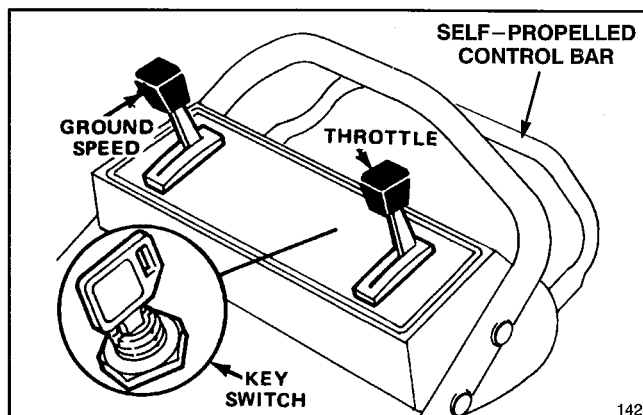
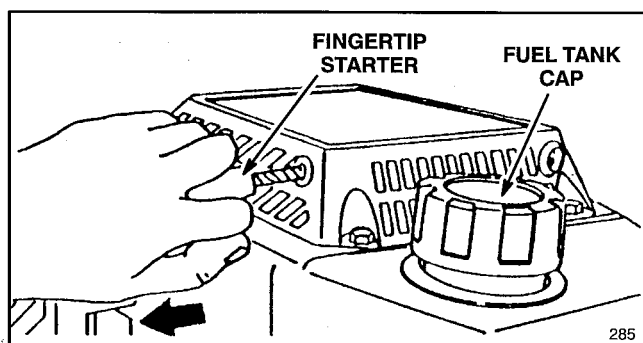

Figure 5
Figure 6
1. Clean around fuel tank cap (Fig. 6) and remove cap from tank. Do not fill tank full. Using unleaded gasoline, fill fuel tank to within 1/4" to 1/2" (6 to 13 mm) from top of tank, not into the filler neck. This space is for expansion of fuel.
1. **CONTROLS**—Key switch (electric start model only), ground speed control, throttle, and blade/self-propelled control bar are on upper handle (Fig. 5). Fingertip starter is on top of engine (Fig. 6).
4a. **KEY-ELECTRIC STARTING** (electric start model only)—Move throttle to CHOKE. Turn key to START and release when engine begins running. When engine starts, remove throttle from CHOKE and regulate engine speed between  (FAST) and  (SLOW). If the battery's charge is too weak to start the engine, the engine can be started with the fingertip starter (Fig. 6).
5. **GROUND SPEED** (Fig. 5)—Ground speed varies depending on distance between control bar and handle. The mower has three ground speeds: number "1" is slow, "2" is medium, and "3" is a fast walking pace. Move ground speed control to desired setting. Ground speed can be varied by increasing or decreasing distance between control bar and handle. Lower control bar to slow mower when making a turn or if mower is moving too fast for you. If you lower control bar too far, the mower will stop self-propelling. Squeeze control bar closer to handle to increase ground speed. When control bar is tight against handle, mower will self-propel at maximum ground speed. Move ground speed control to **N** (neutral) position when using the mower for trimming and whenever leaving mower.